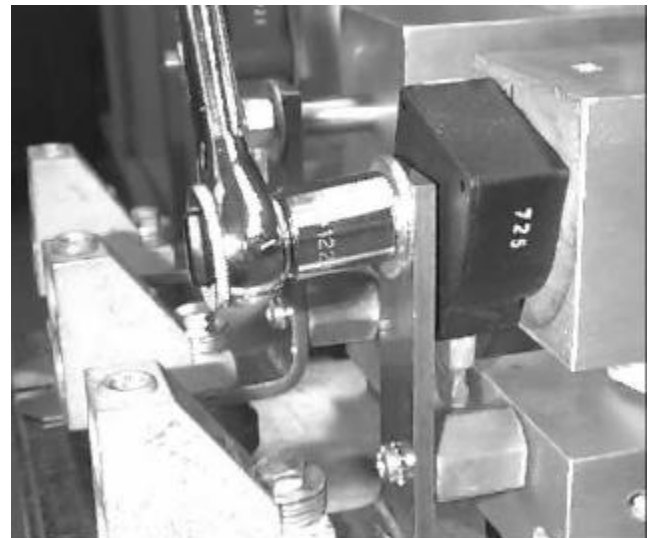

Figure 19. Removing the L-shaped busbar.
5. Remove the L-shaped busbar and CT, if applicable, from the assembly, as shown in Figure 19.